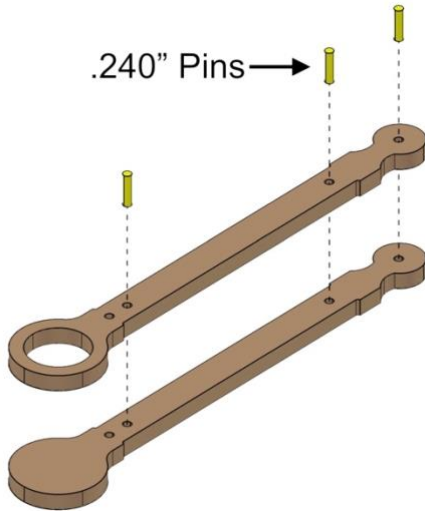

Fig. 53
- Align parts exactly as shown in *Fig. 53*.